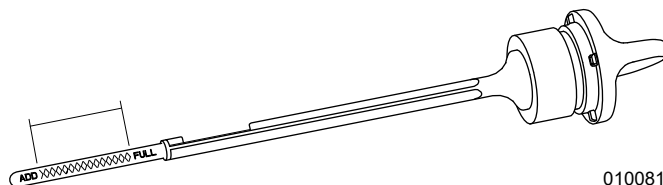

Figure 4-2. Safe Operating Range
2. See Figure 4-2. Replace dipstick. Remove dipstick and verify oil level is within safe operating range.